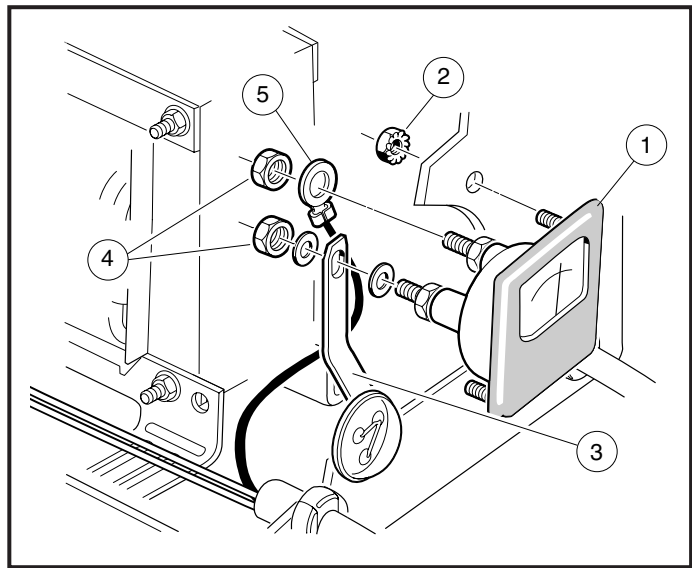

FIGURE 19-17
### **AMMETER (FIGURE 19-17):**
2. Disconnect black wire from the DC cord (5), and the buss bar (3) from the ammeter (**Figure 19-17**).
3. Remove the two nuts (2) that secure the ammeter to the charger face.